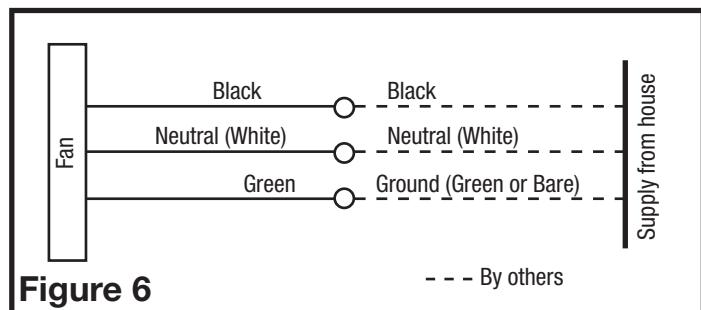

Figure 6
2. From where you have access to inside the fan's junction box, connect the White wire from the house to the White wire from the fan's receptacle. Connect the Black wire from the wall switch to the Black wire from the fan's receptacle. Connect the ground wire from the house to the Green wire from the fan's receptacle (**Figure 6**). Use approved methods for all connections.